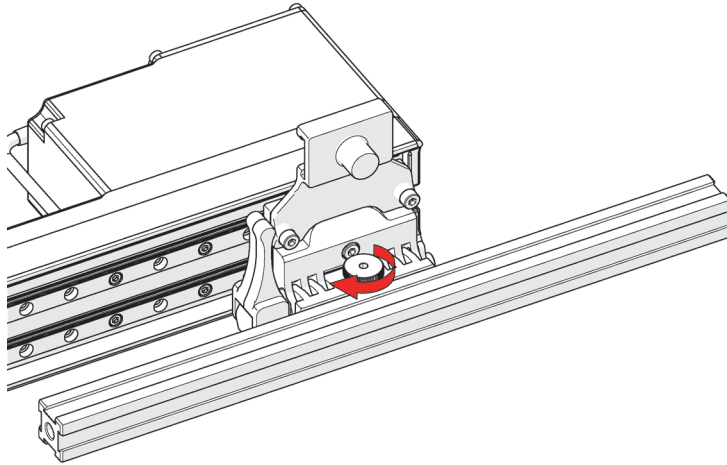

Figure 2-103 Mount frame bar
5. Mount a frame bar to the raster arm pivot nose (see Figure 2-103 on page 125).